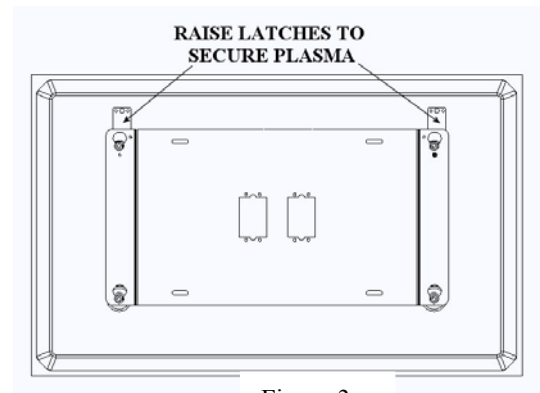

Figure 3
5. With the aid of another person, lift the display up to the mount, align the mounting buttons on the display with the teardrop slots in the mount, and set the display into place (see figure 3).